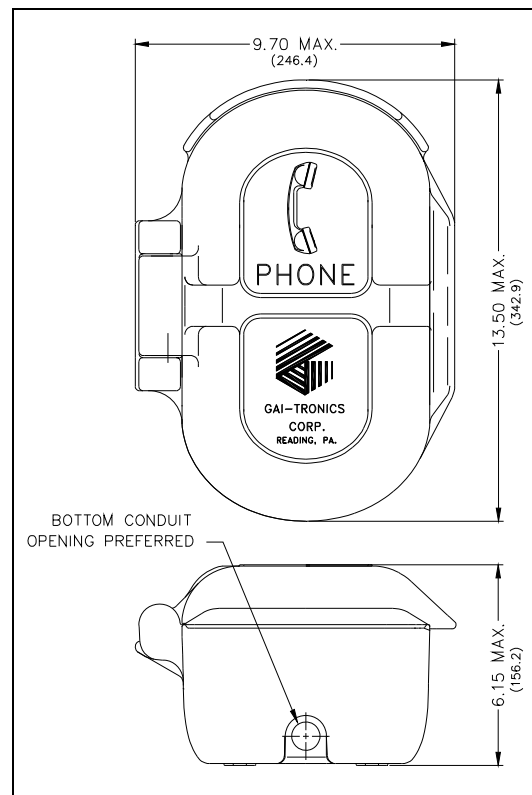

Figure 4. Model 227-001 Outline
5. Install a conduit fitting in one of the ½-inch NPT conduit entrances provided at both the top and bottom of the unit and insert the conduit into the fitting (see Figure 4).